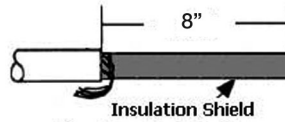

Fig. 3 - Cut Cable
- A. Cut the excess cable off square and even with the center line of the bushing. See Figure 3.